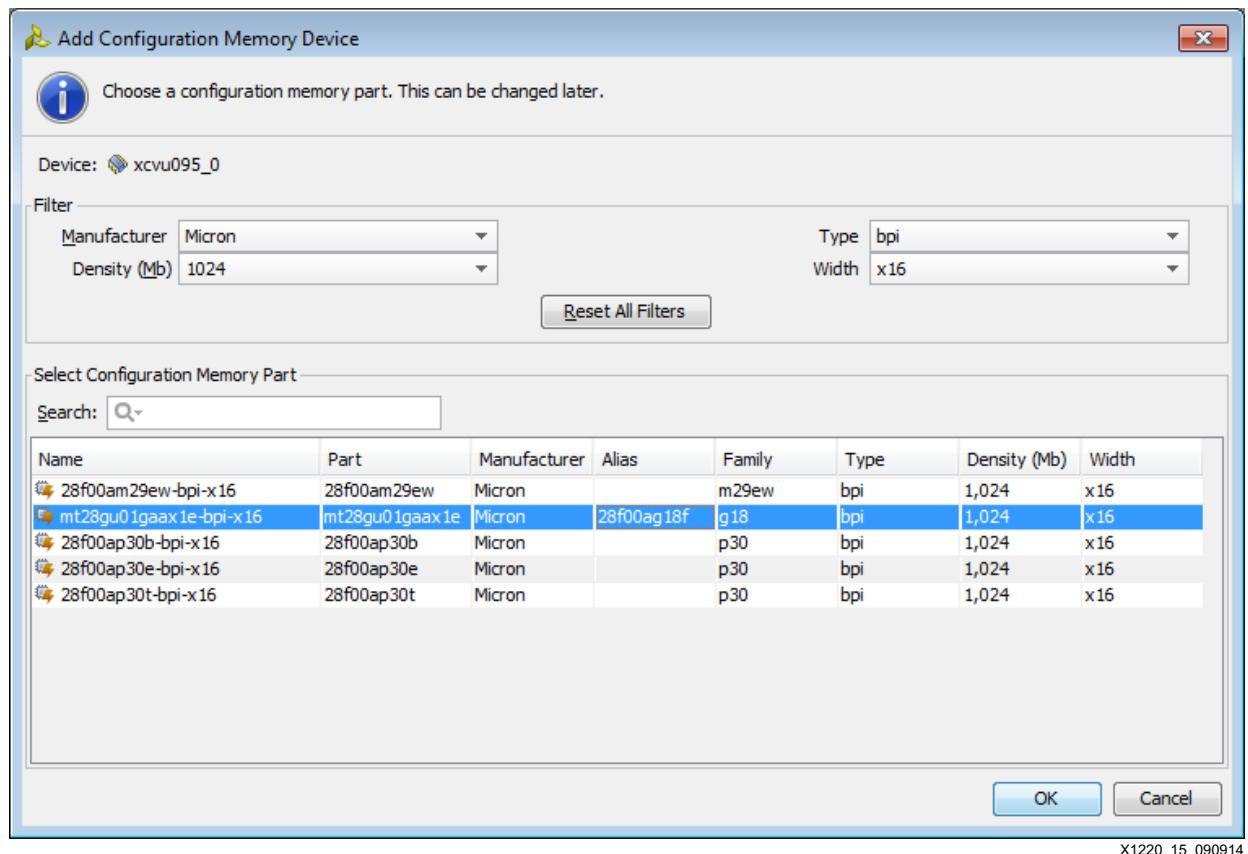

Figure 15: Flash Part Selection
4. Press **Add Configuration Memory > XCVU095_0** in the **Hardware Manager** tab under **Program and Debug** tab in the Flow Navigator. A window appears to select the configuration memory part as shown in Figure 15. Select the Micron (28F00AG18F) MT28GU01GAAX1E and click **OK**.